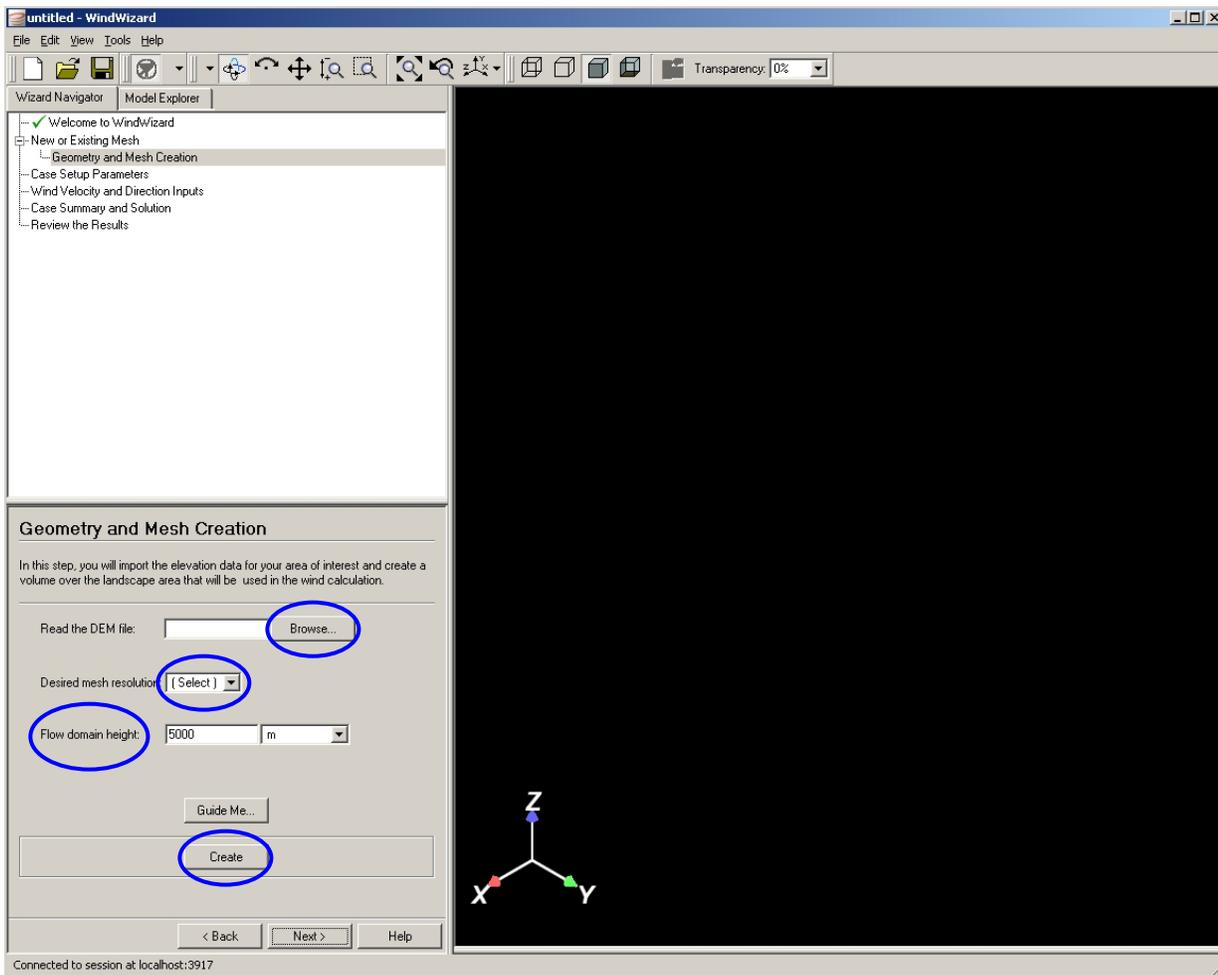

Figure 3. WindWizard geometry and mesh creation window.
6. Click **Create** to start the meshing process (Figure 3). NOTE: The progress bar is inaccurate and should be disregarded. Depending on your CPU and mesh resolution, the meshing process will take 5 to 30 minutes.